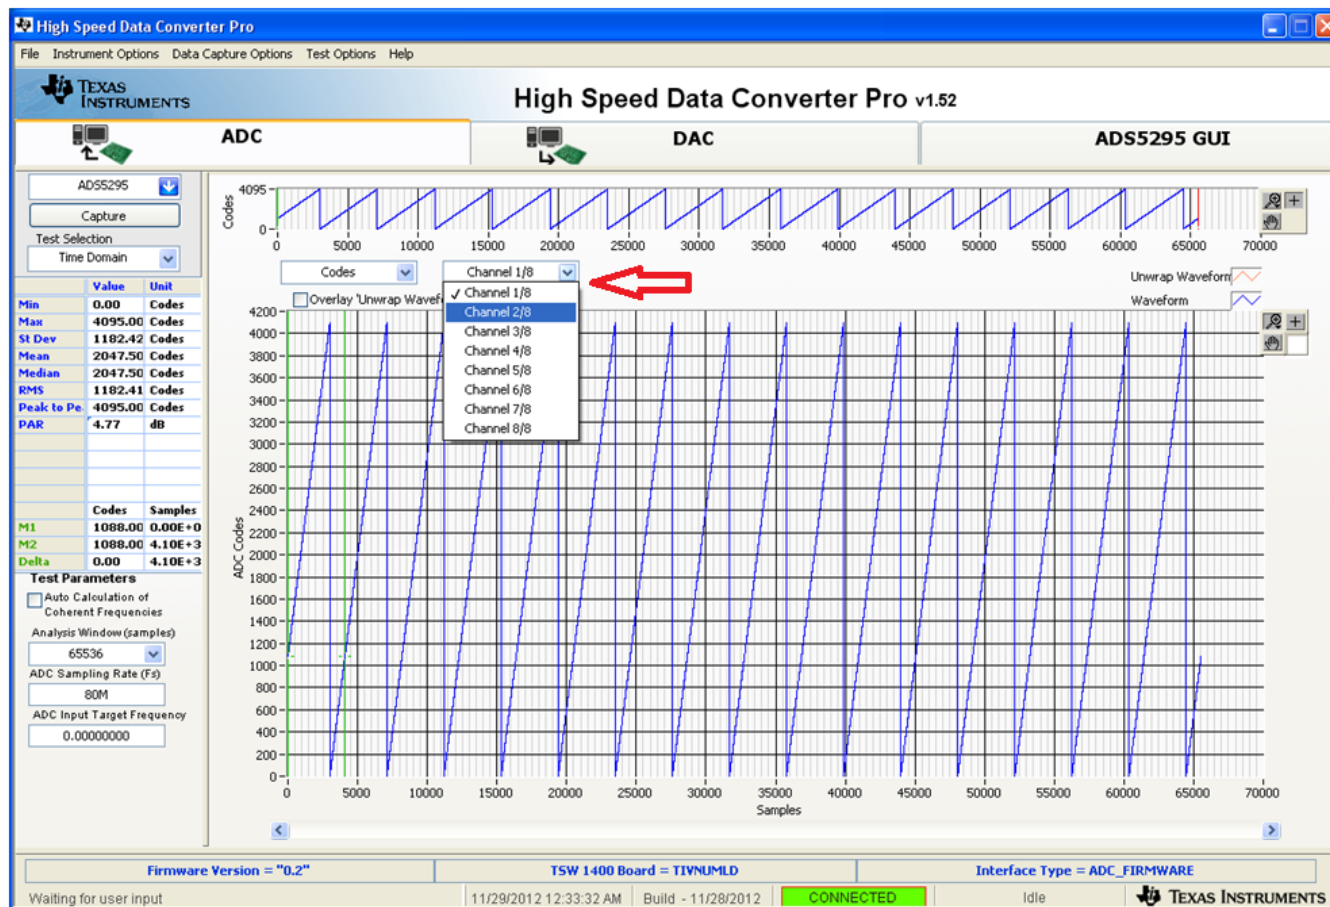

Figure 14. ADC Channel Selection
- Repeat the above procedure for all eight ADC channels using the selection box shown in Figure 14.